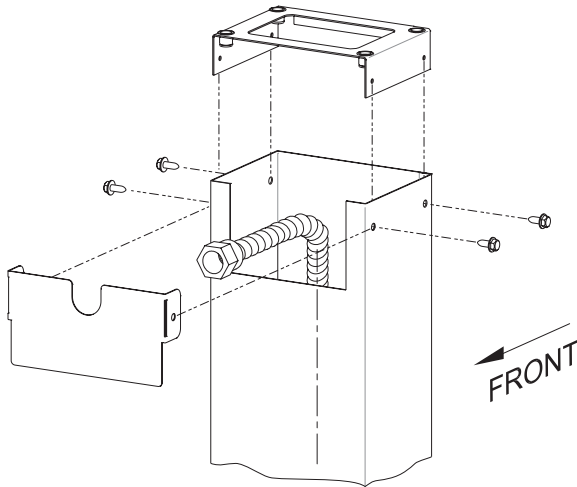

Figure 5
5. **For R3 Series Grill Heads:** Slide the Post Cover Plate onto the front of the post. Slide the Upper Bracket onto the post. Secure the Post Cover Plate and Upper Bracket to the top of the square post using four #10 – ½ screws. See Figure 5.
**For Grill Heads other than R3 Series:** Slide the Upper Bracket into the post. Secure the Upper bracket to the top of the square post using four #10 – ½ screws. See Figure 5.